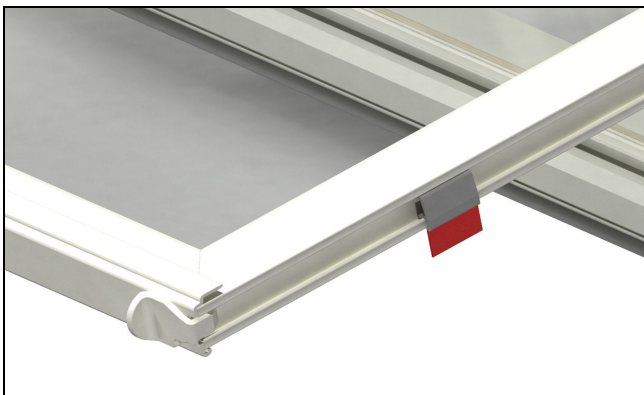

Figure 30
4. On Single and Double Hung units: Raise the bottom sash and tilt in. Remove the vinyl shipping blocks from each side. See Figure 30.